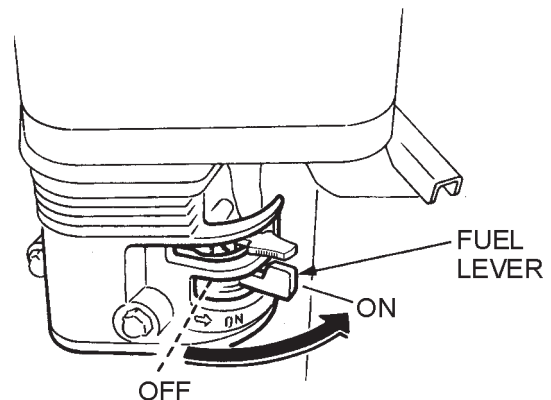

Figure 21. Engine Fuel Valve Lever
1. Place the engine **fuel valve lever** (Figure 21) to the "ON" position.